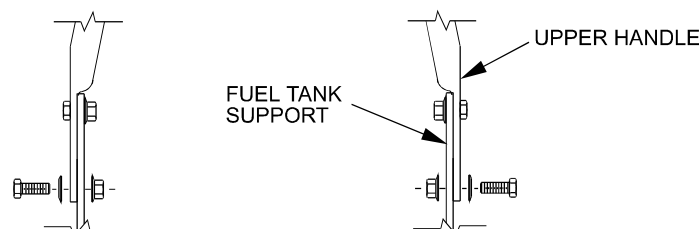

FIGURE 1
- 3.8 Position the lower end of the handle assembly on the outside of the upper rear section of the fuel tank & handle support. Install four 3/8-16 x 1" bolts (with four spring disk washers against the head of each bolt) from the outside in. Secure using four 3/8" whizlock nuts on the inside of each handle support and tighten until the spring disk washers are flat (See Figure 1).